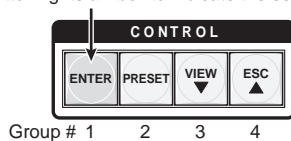

Figure 3-32 — Select an I/O group
3. Press and release the Enter button to select group 1 (figure 3-32).